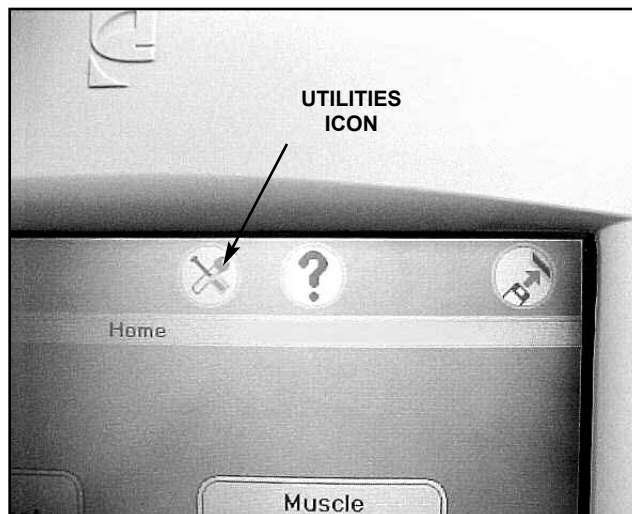

FIGURE 5.34
1. Press “Utilities” icon in the top section of the screen. See Figure 5.34.